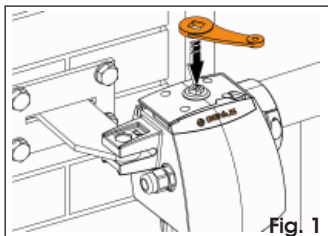

Fig. 1
2. Insert the manoeuvring key in its seat located at the top of the operator (Fig.1).